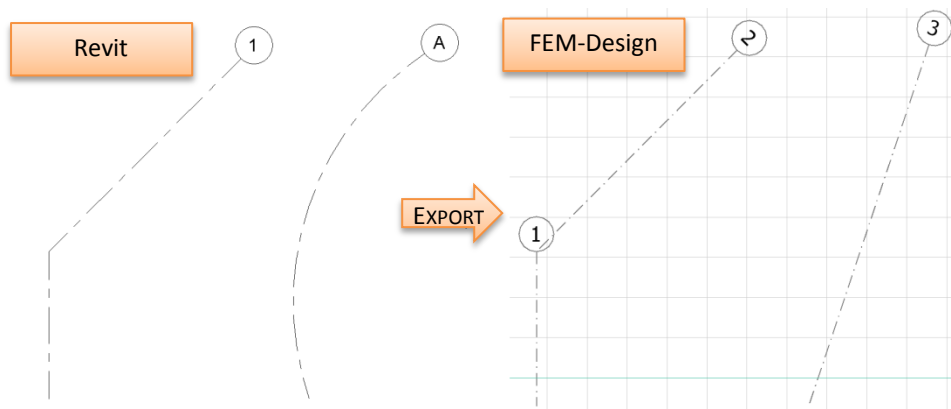

Figure 3-14
- curved grid after export from Revit to FEM-Design will be replaced with a straight line axis between the start and end point of the original curved grid, as shown in Figure 3-14.